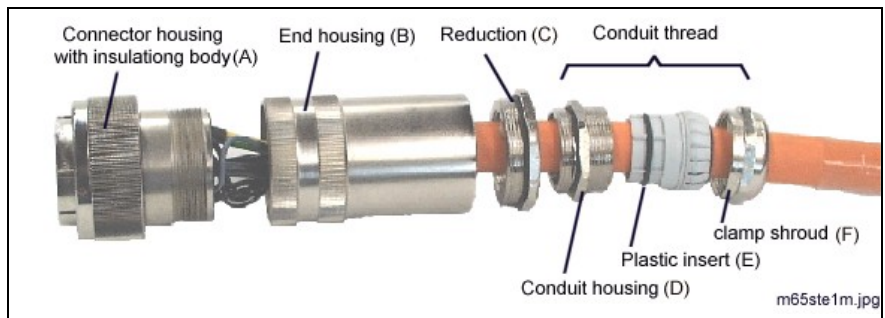

Fig. 2-47: Individual parts of connectors INS0481, -0482, -0486
1. Take connector apart (see Fig. 2-47).